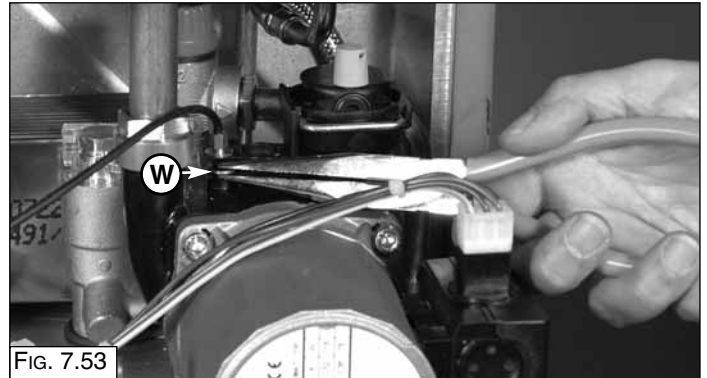

FIG. 7.53
1. Release U-clip "W" (Fig. 7.53 - 7.54);